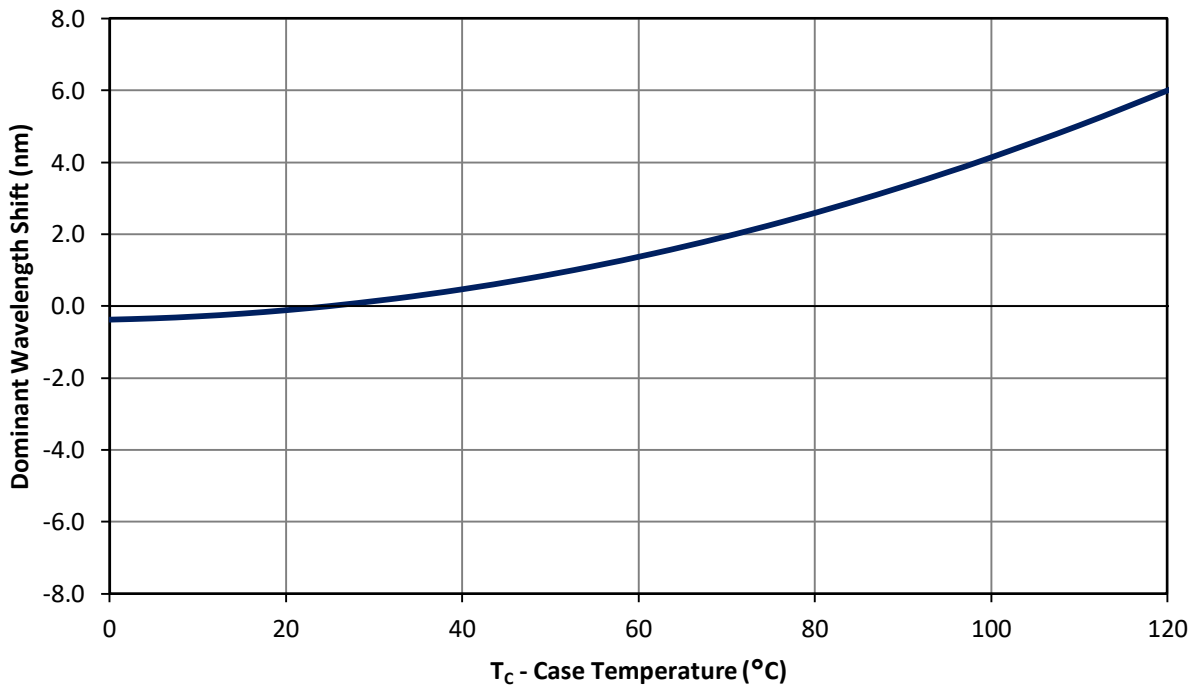

Figure 10: Typical dominant wavelength shift vs. case temperature.
- Maximum DC forward current (per die) is determined by the overall thermal resistance and ambient temperature. Follow the curves in Figure 10 for current de-rating.